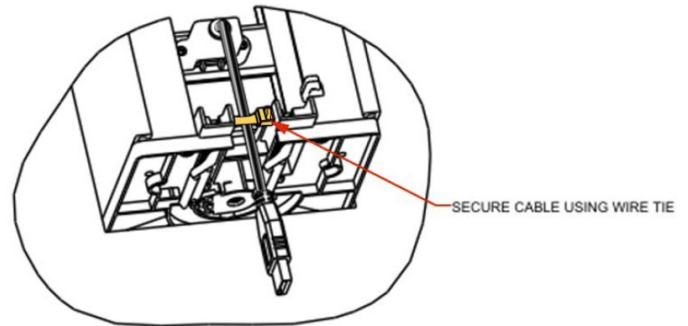

FIG. 5 Optional Spacer and Mounting Tabs Deployed
- For terminations for which the far end of the cable is not accessible (either because the cable has been run under carpet, in a conduit or structure, or is otherwise fixed), the cable must be placed through the cutout in the table prior to installation, as indicated in FIG. 5
2. Secure these cables and the power cable to either of the end caps using the supplied wire ties (FIG. 5).